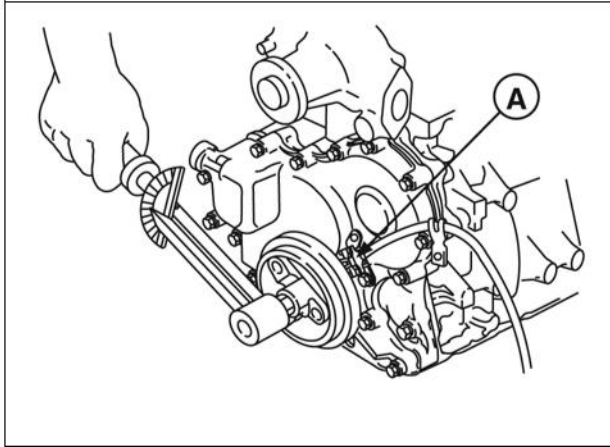

Figure 22
11. Install crankshaft pulley with timing mark at 12 o'clock position (No. 1 cylinder) (Figure 22).